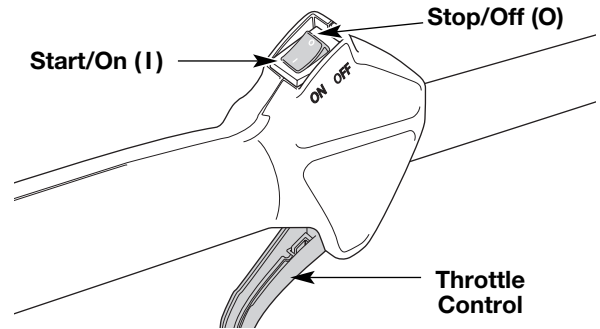

Fig. 6
2. Put the On/Off Stop Control in the OFF (O) position (Fig. 6).